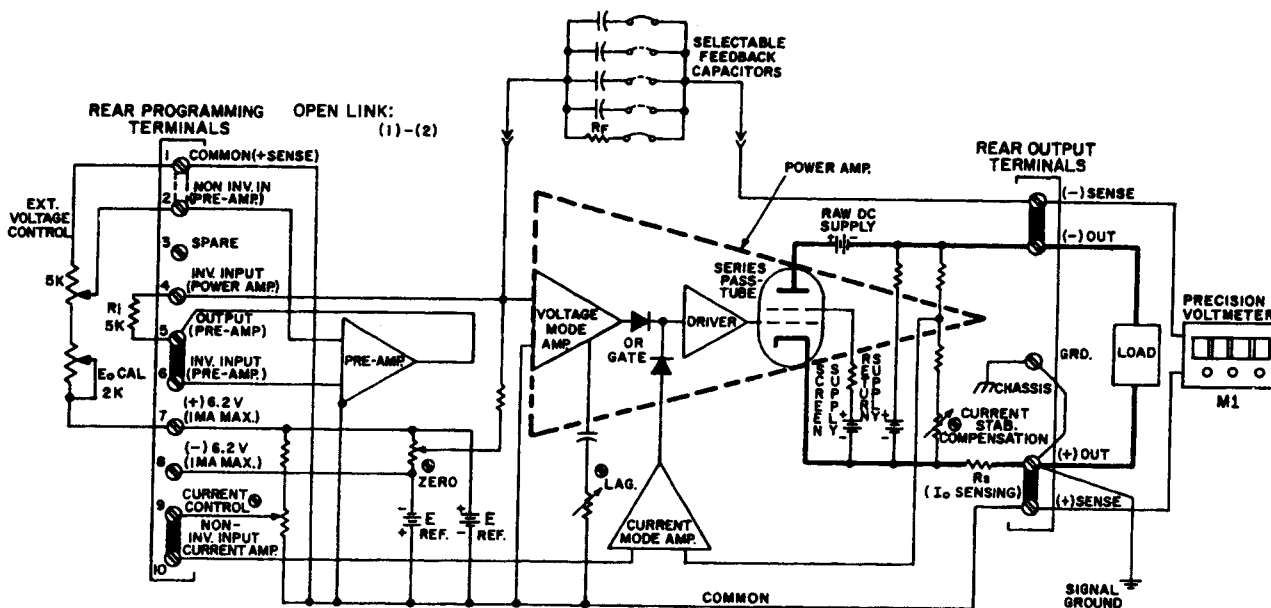

FIG. 3-7 CONNECTIONS FOR OPS OUTPUT VOLTAGE CONTROL WITH A POTENTIOMETER.
- 1) Connect the potentiometer (EXTERNAL VOLTAGE CONTROL), the calibrating rheostat (Eo CAL.), the LOAD and the OUTPUT VOLTMETER (M1) to the OPS as shown in FIG. 3-7. FOR INTERCONNECTION DETAILS AND PRECAUTIONS, TURN TO THE "WARNING" PARAGRAPH ON PAGE 3-3.